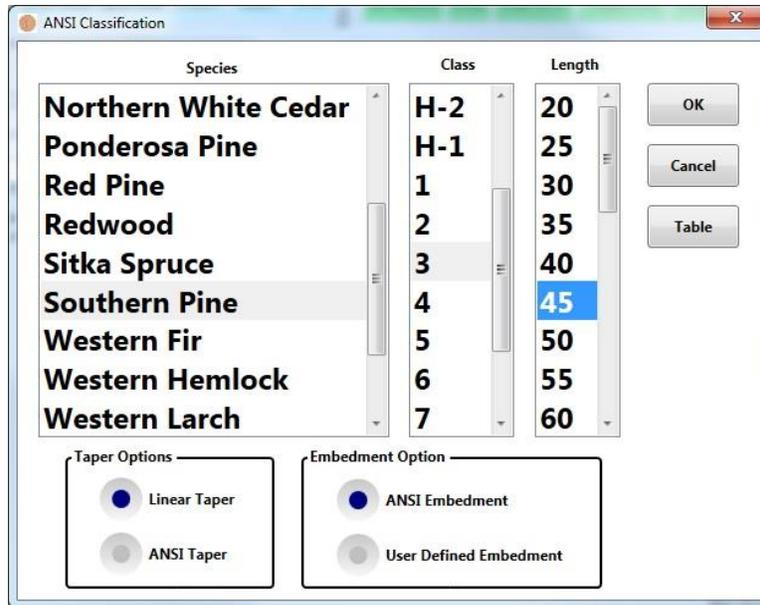

Figure 2-3. ANSI Classification for Example 1
2. Click the **ANSI** button to enter the ANSI specifications for the pole. Select Species (**Southern Pine**), Class (**3**), and Length (**45**). Then click **OK** to return to the main screen. See Figure 2-3.